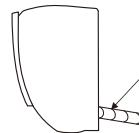

Fig 2
- Depending on the position of the unit, the piping may be routed sideway from the left or the right (Fig 1), or vertically from the back (Fig 2) (depending on the pipe length of the indoor unit). In the case of sideway routing, cut off the outlet cutting stock of the opposite side.